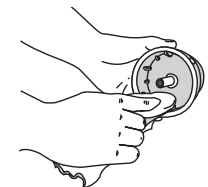

Fig. 28
3. Remove spring from the inner reel (Fig. 28).
4. Use a clean cloth to clean the the inner reel, spring, shaft and inner surface of the outer spool (Fig. 28).